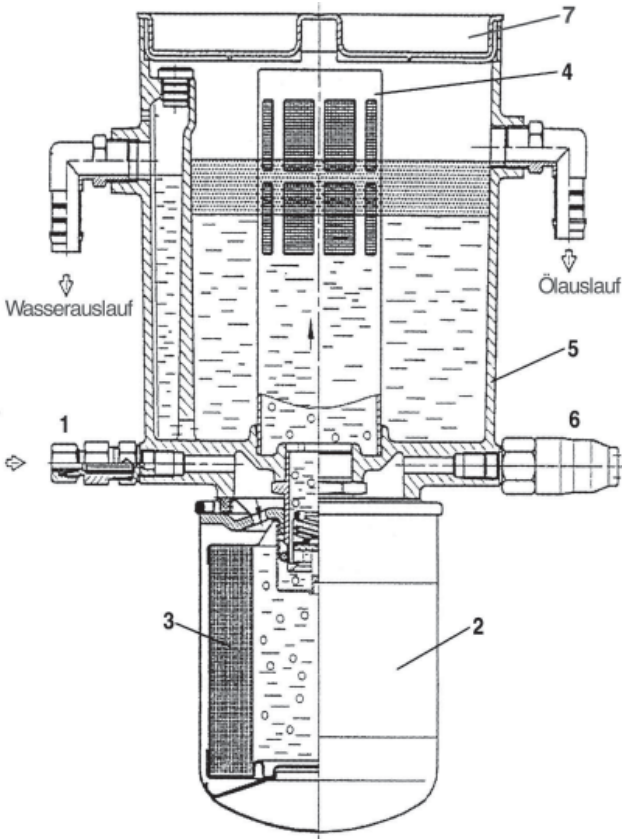
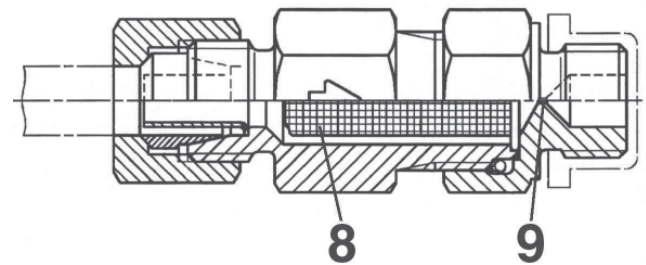

Fig. 1: Oil/water separating unit (diagram of principle)
Fig. 2: Screw fitting
The condensate enters the ÖWT via the inlet (Item 1, Fig. 1). Make sure that air pockets do not form in the condensate to prevent foaming and/or overflowing (see Chapter 4). The system pressure forces the oily condensate through the oil/water separation box first of all (Item 2, Fig. 1).
Fine oil droplets then flow through an element (Item 3, Fig. 1) to form larger drops. The difference in viscosity of oil in relation to water causes the oil droplets to rise. A cylindrical strainer (Item 4, Fig. 1) in the tank (Item 5, Fig. 1) helps separate the oil from the water. When the maintenance switch (Item 6, Fig. 1) triggers an electrical signal, this indicates that the oil/water separation box needs replacing.
- Connect the supply, water outlet and oil outlet pipes (see Fig. 1).
- Connect the maintenance switch (Item 6, Fig. 1).
- Remove the cover (Item 7, Fig. 1).
- Check whether the cylindrical strainer (Item 4, Fig. 1) is seated firmly in the ring groove on the housing (Item 5, Fig. 1). The cylindrical strainer will not function correctly if it floats upwards!
- Fill the housing (Item 5, Fig. 1) and attached oil/water separation box (Item 2, Fig. 1) with water until it reaches the water outlet.
- Replace the cover (Item 7, Fig. 1).
The oil/water separation box (Item 2, Fig. 1) must be replaced if the maintenance switch triggers (Item 6, Fig. 1), after 2000 operating hours or once a year at the latest.
- Unscrew the oil/water separation box (Item 2, Fig. 1) using a belt wrench. When the box is unscrewed, a non-return valve closes automatically to prevent the tank from emptying.
- Check the cylindrical strainer (Item 4, Fig. 1) regularly for leaks, especially during cold weather, and clean if necessary.
- Regularly disconnect the screw fitting at the outlet (Item 1, Fig. 1) depending on dirt quantities (e.g. rust particles) and clean the filter insert (Item 8, Fig. 2) and hole (Item 9, Fig. 2).